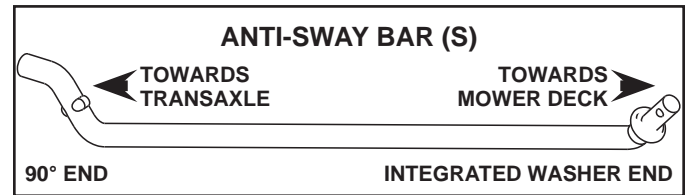

Fig. 25
5. INSTALL ANTI-SWAY BAR (S) (IF EQUIPPED) (See Fig. 25 - 27)